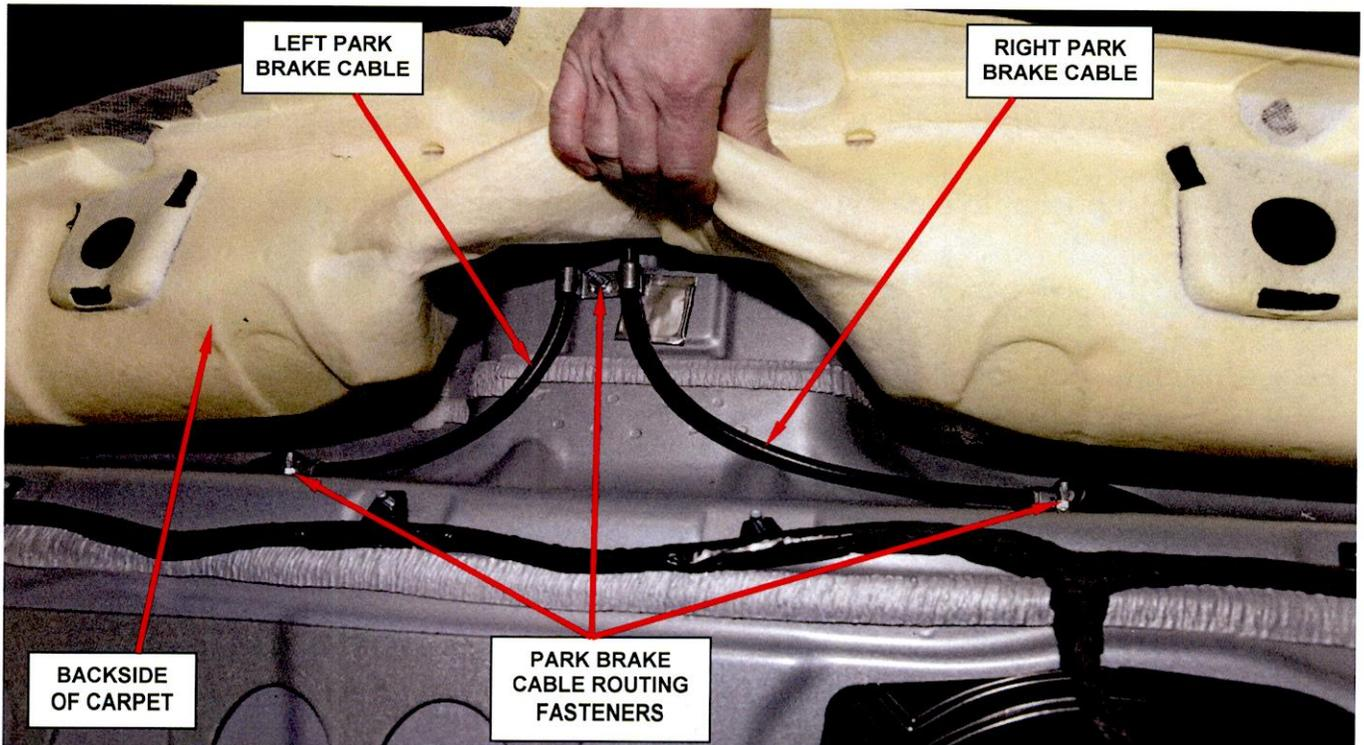

Figure 12 – Park Brake Cable Routing Fasteners
9. Pull the carpet back to gain access to the park brake cables (Figure 12).
10. Remove and save the park brake cable routing fasteners (Figure 12).